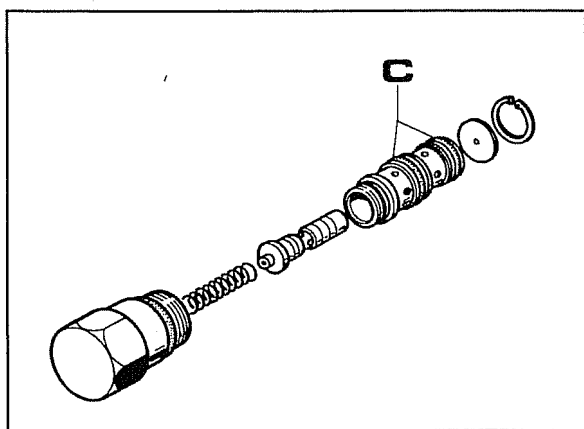

Fig. 3
3. Dismantle the valve which will appear as illustrated in Fig.3.
4. Check the condition of the two seal rings **C** Fig.3 and change them if necessary. Wash all the parts and dry them with an air jet to eliminate every trace of dirt.